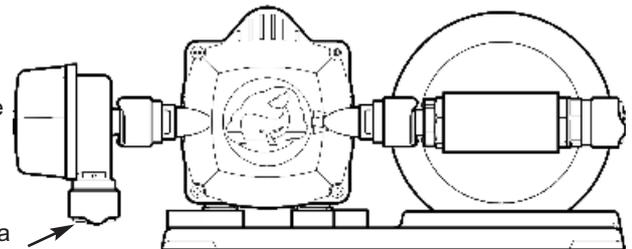

Fig 3 - Attaching The Strainer
- Check pump flow direction (as indicated on pump body) and ensure that a strainer (supplied with retail pump) is attached to the pump head inlet (Figure 3).
- Ensure a double click into Quick Connect connections (Figure 3).